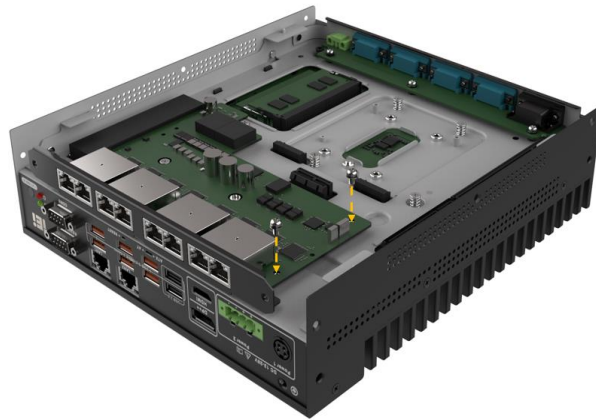

Figure 3-5: Securing the GPOE-XM81-8P
- Step 2:** Secure the module with 2 screws (Figure 3-5).